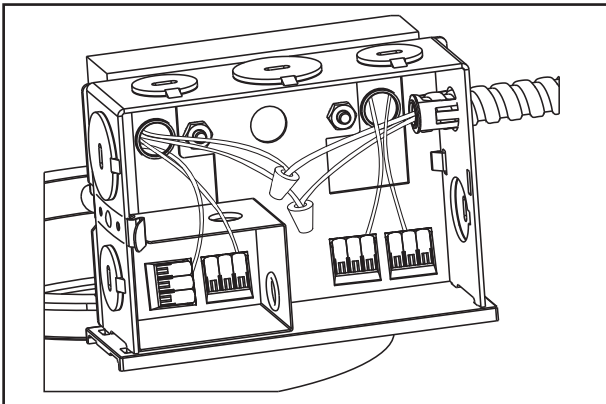

Figure 12
2. Remove junction box cover (Figure 12.).